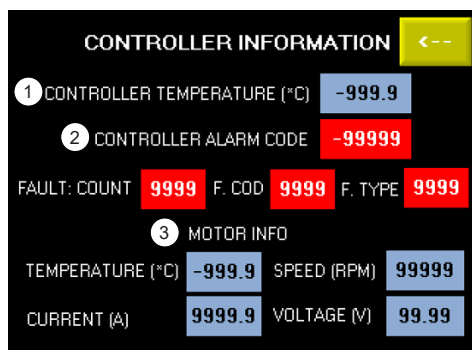

Figure 9: Controller Information Screen.
2. **Controller Info:** displays all the information recorded by the Controller (see Figure 9).
3. Push at the same time retract or advance button in the pendant control (Figure 9, items 2 or 3).